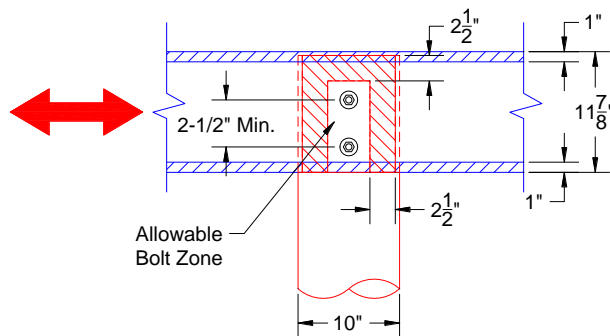

Figure 6: Lateral Design (Continuous Beam).
- Required end and edge distances shown in Figures 6 and 7.
| Product (Moisture Condition) | Z [lb/bolt] | C _M | C _D | C _A | Z' [lb/bolt] | Figure 6 Effective Bolts | Figure 6 Capacity [lb] | Figure 7 Effective Bolts | Figure 7 Capacity [lb] |